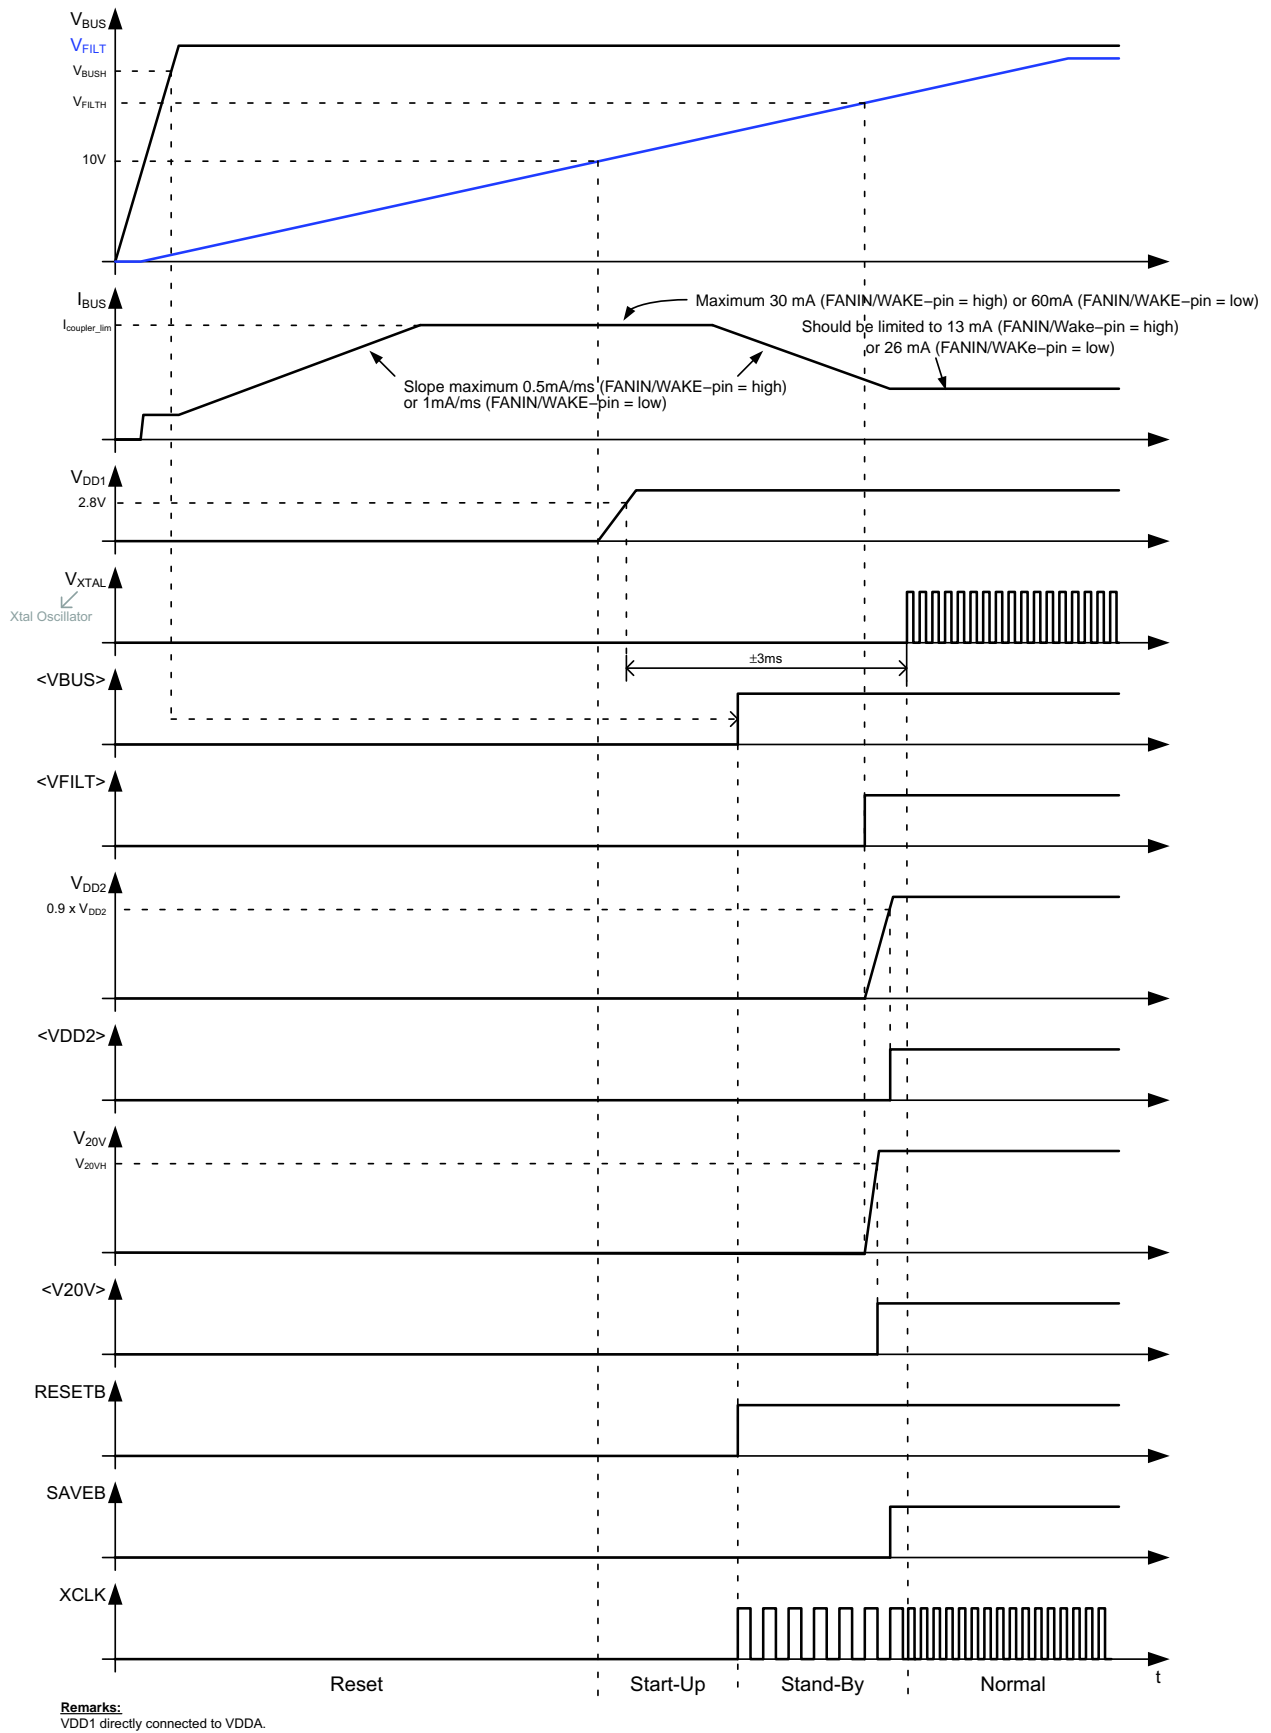

Figure 21. Start-Up Behavior
After power-up, a 4 MHz (Note 3) clock signal will be present on the XCLK–pin during Stand-By. When Normal State is entered, a 8 or 16 MHz clock signal will be present on the XCLK–pin. See also Figure 21.
Figure 21 gives a detailed view on the start-up behavior of NCN5120. After applying the bus voltage, the filter capacitor starts to charge. During this Reset State, the current drawn from the bus is limited to $I_{coupler}$ (for details see the KNX Standards). Once the voltage on the filter capacitor reaches 10 V (typ.), the fixed DC-DC converter (powering VDDA) will be enabled and the device enters the Start-Up State. When V_{DD1} gets above 2.8 V (typ.), the OTP memory is read out to trim some analog parameters (OTP memory is not accessible by the user). When done, the Stand-By State is entered and the RESETB-pin is made high. If at this moment V_{BUS} is above V_{BUSH} , the VBUS-bit will be set (<VBUS>, see System Status Service, p34). After approx. 2 ms the Xtal oscillator will start. When V_{FILT} is above $V_{FILT_{DC2}}$ and V20V will be started. When the Xtal oscillator has started, no Thermal Warning (TW) or Thermal Shutdown (TSD) was detected and the VBUS-, VFILT-, VDD2- and V20V-bits are set, the Normal State will be entered and SAVEB-pin will go high.